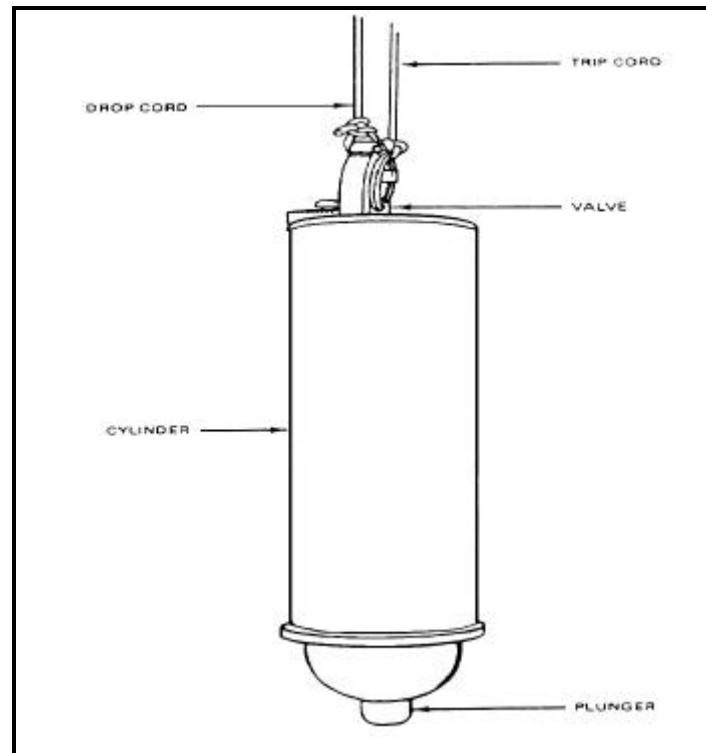

Figure 3-24. Bacon bomb thief sampler
- **The Bacon bomb thief** may be modified as shown in (Figure 3-24, page 3-27) to speed up operations, save product, and reduce health hazards.